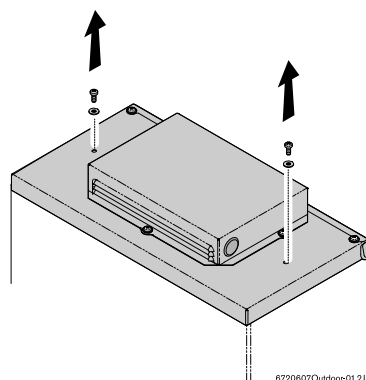

Fig. 7
- Remove the two top screws securing the vent cap to the top of the heater, being careful the washers on the screws are not lost, see Fig. 7.